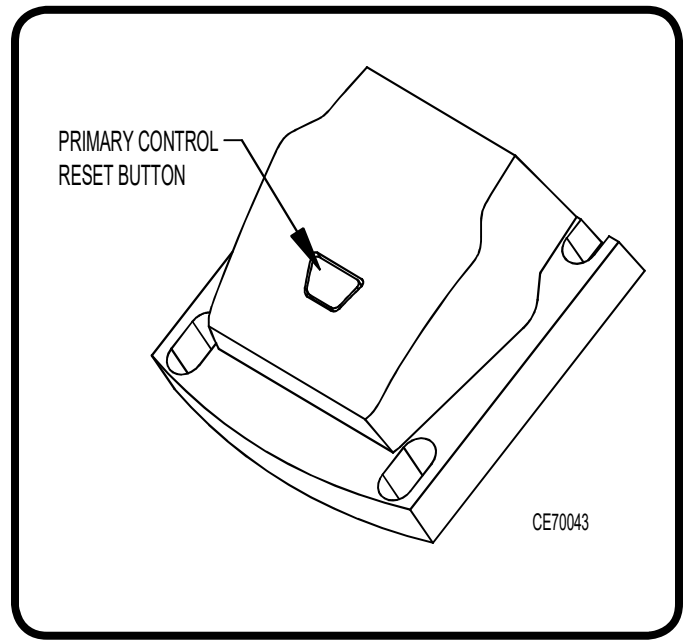

Figure 25: Oil Primary Control Reset Button
- (1) Refer to Figure 25 to locate the oil primary control reset button.
- (2) Do not attempt to reset the burner if there is excess oil in the combustion chamber, vapor has accumulated in the unit, or when the boiler is hot.